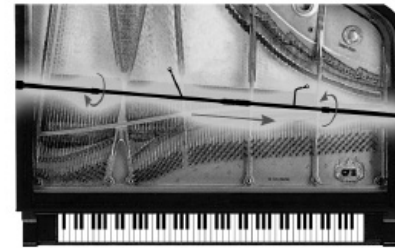

Figure 9. Favoring the High Strings
7. With the PianoMic™ in place, you will need to determine if you want the microphones to favor the high strings, low strings or neither. The center section of the PianoMic™ can slide up to eight inches in either direction in order to favor the high or low strings, if desired. This positioning is illustrated in Figures 9 and 10.